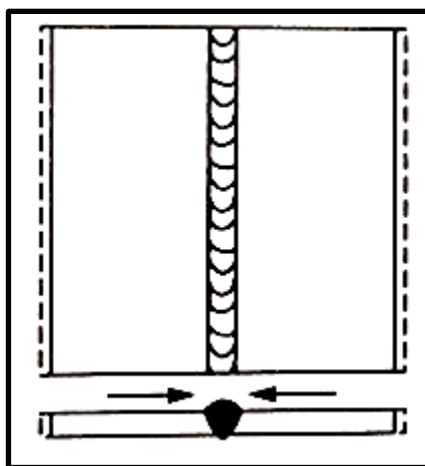

FIGURE 9.3.1
9.3 Study FIGURES 9.3.1 and 9.3.2 below and identify EACH distortion.